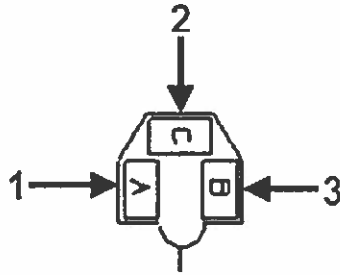

Figure 2 Headlight Connector (Viewed from Harness Insertion End)
5. Verify circuit U11-GH WH is inserted into cavity A and circuit U52-D YL is inserted into cavity B. If the circuits are found to be in these cavities, proceed to step 6. If the circuits are reversed, remove the terminals from cavities A and B of the electrical connector and switch their positions upon reinstallation to the connector so U11-GH WH is inserted into cavity A and circuit U52-D YL is inserted into cavity B. See Figure 2 and Table 1.
10. Verify circuit U11-GH WH is inserted into cavity A and circuit U52-D YL is inserted into cavity B. If the circuits are found to be in these cavities, proceed to step 11. If the circuits are reversed, remove the terminals from cavities A and B of the electrical connector and switch their positions upon reinstallation to the connector so U11-GH WH is inserted into cavity A and circuit U52-D YL is inserted into cavity B. See Figure 2 and Table 1.